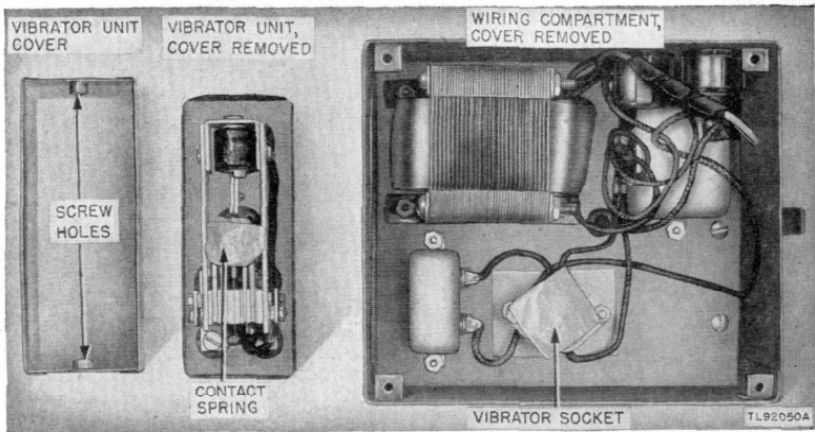

Figure 8. Converter M-222 inside of chassis, vibrator unit removed, vibrator unit plug receptacle and contact spring masked.
(2) Mask vibrator unit plug receptacle. (See fig. 8.)
(3) Mask vibrator unit contact spring. (See fig. 8.)
(4) Mask the screw holes in the cover of the vibrator unit. (See fig. 8.)
(5) Transformer, vibrator unit, and wiring compartment. (See fig. 8.)
(6) Inside of vibrator unit case and vibrator unit cover. (See fig. 8.)
g. REASSEMBLY. (1) Remove all masking tape, being careful not to peel varnish from near-by areas.